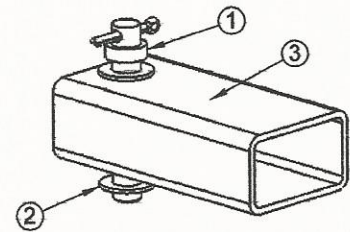

Figure 16
- 1) Remove Hair Pin Clips from the Angling Pins (3) and slide Gang Frames to the desired angle. **Make certain** that both front and rear gang frames are set at the same angle. Replace the Angling Pins and insert Hair Pin Clips to secure.
C) To Level Individual Disc Gangs (Refer to Figure 16)
- 1) Individual Gang Level is adjusted by placing the Leveling Spacers (1) and Leveling Washers (2) above or below the Disc Gang Frame (3) as desired. The Gang Frame is level when one Leveling Washer and Leveling Spacer is placed above the Gang Frame and the second Leveling Washer is below the Gang Frame as shown in Figure 16. Install one Leveling Washer and Leveling Spacer above the Gang Frame and the second Leveling Washer below the Gang Frame to lower the inside discs slightly.